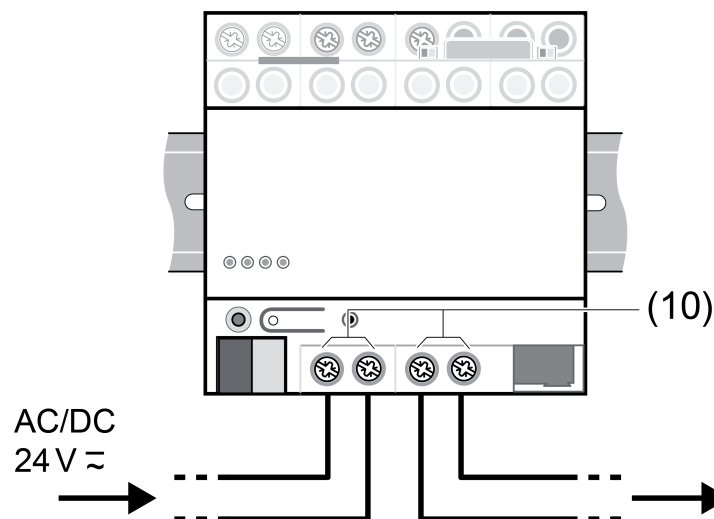

Figure 7: Looping through power supply
Both terminal pairs (10) can be used for looping through the external power supply (Figure 7). The total power consumption of all looped-through loads must not exceed 1.5 A.